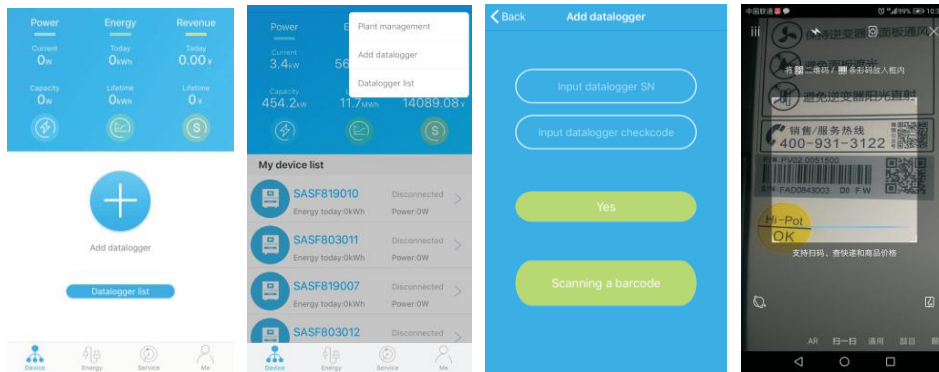

图 8.7
- Way: Click "+" in the upper right corner of the device page and select "Add Collector (WiFi/GPRS, etc.)", as shown in Figure 8.7.